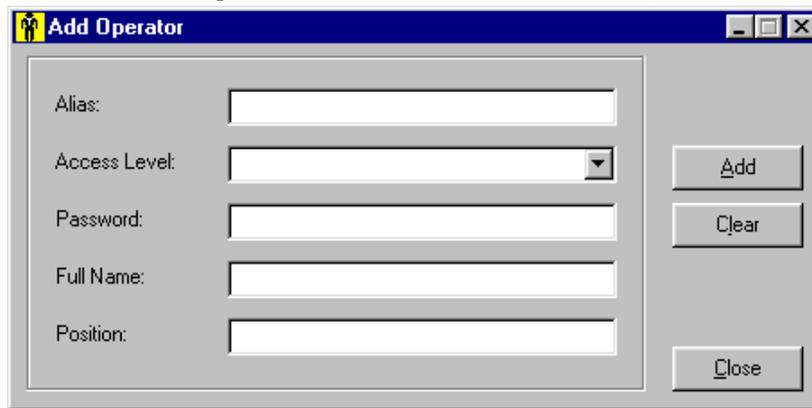

Fig. 32 Add operator form
- Add Command. The add new operator window is shown in Fig. 32. It is necessary to enter alias (short identifier) for the operator, select from the opening list the operator access level, password, full name and position. **The Operator access level doesn't allow execution of all functions in the Setup menu on the desktop except the Display Vehicles Options...function.** Once you have entered all the values, click on the Add button. The added vehicle is placed in the operator's list of the parent window. Once you have entered all the operators, click on the Close button. Use Clear button to clear all textboxes.